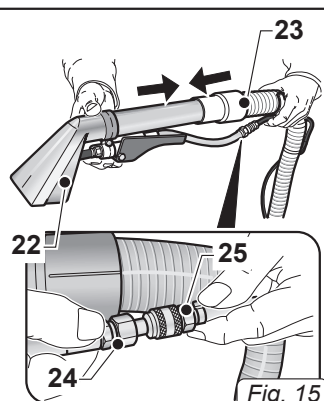

Fig. 15
- Insert the fabric nozzle (22 Fig.15) into the flexible hose (23 Fig.15).
- Connect the detergent hose (24 Fig.15) to the quick coupling (25 Fig.15) on the flexible hose; to release it push the quick coupling (25 Fig.15) towards the hose.